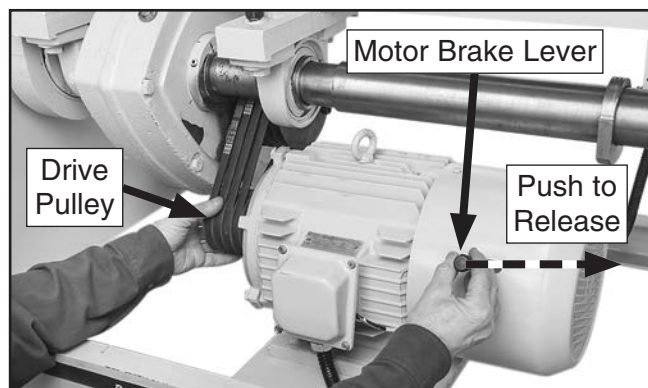

Figure 53. Releasing motor brake to turn motor by hand.
- To release motor brake, push lever right, as shown in **Figure 53**, then turn drive pulley by hand until upper and lower blades completely overlap.